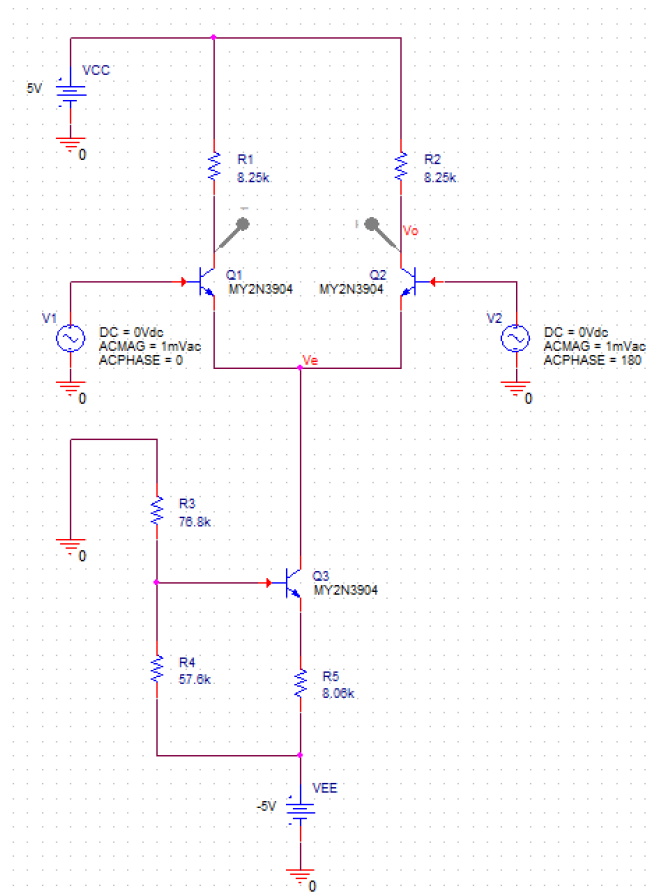

Fig. 5 Schematic diagram of the differential amplifier for differential-mode analysis
- 3.1 We want to analyze its characteristics for the DC differential-mode signal V_{DM} , followed by the AC differential-mode signal v_d . Here, the voltage sources V_1 and V_2 in Fig. 5 provide both DC and AC voltages to the inputs of the differential amplifier. Set the DC values of V_1 and $V_2 = 0$ V.
- 3.3 **Frequency Response:** Set the AC magnitudes of V_1 and V_2 to 1 mV. For the differential-mode signal, set the phases of the AC signal V_1 and V_2 to be 0° and 180° , respectively, as shown in Fig. 5. In this setting, the differential-mode signal $v_{id} = V_1 - V_2 = 1 \text{ mV} - (-1 \text{ mV}) = 2 \text{ mV}$. Conduct AC sweep for V_o in Logarithmic with Start Frequency = 100 Hz, End Frequency = 10 MegHz, and Points/Decade = 101. In the simulator window, click the Add Trace icon , choose Plot Window Templates under Functions or Macros, select Bode Plot – dual Y axes(1), select V(V_o) in Simulation Output Variables, and press OK. Record the magnitude and phase of V_o in the sheet “Step 3.3 of the Excel file “Lab 2 – Single-Stage Amplifier.xlsx”.
- 3.4 Based on Fig. 5, construct the measurement setup for the differential amplifier. Use $V_+ = 5V$ for V_{CC} , $V_- = -5V$ for V_{EE} , Wavegen 1 (W1) for V_1 and Wavegen 2 (W2) for V_2 . Connect GNDV+, GNDV-, GNDW1, and GNDW2 to a common ground line.